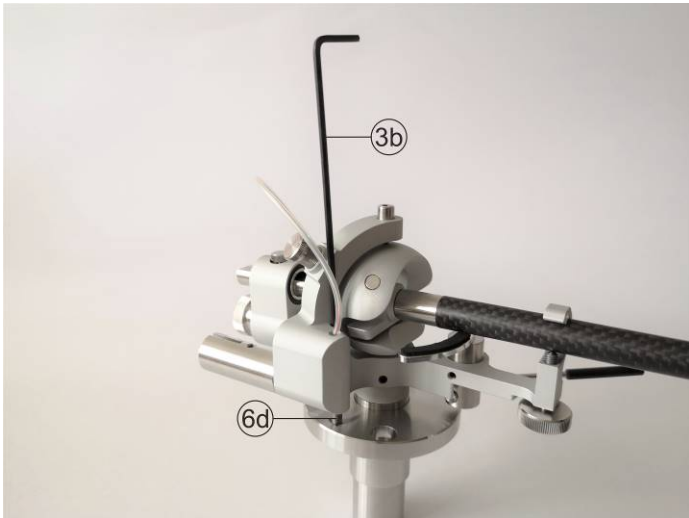

Figure 17
- d) Adjust armtube height by making it parallel to the record. To regulate height, screw in or out VTA adjustment screw [6d] with hex (allen) key [3b] (Figure 17).